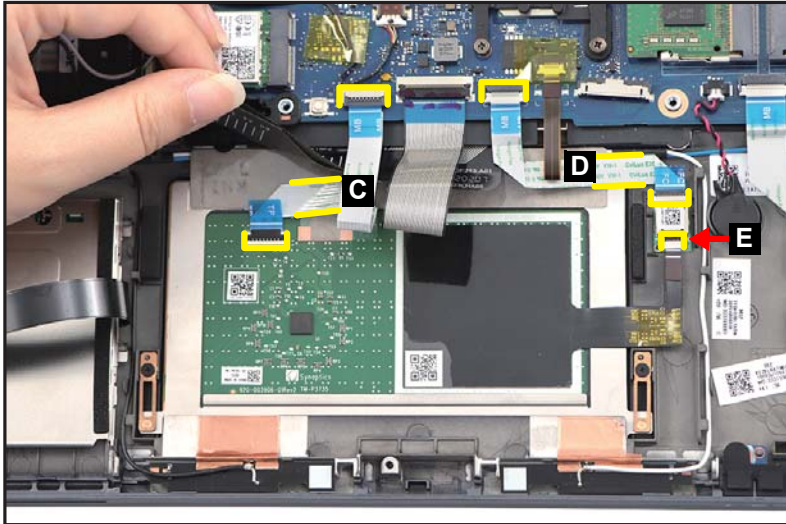

Figure 1-35. Touchpad Module Removal
3. Disconnect the touchpad FFC (C) from the touchpad module and mainboard connectors. Then carefully lift the portion of FFC (highlighted by the yellow lines) to detach it from the adhesive tape underneath as shown in Figure 1-35. Remove the touchpad FFC.
4. Disconnect the NFC FFC (D) from the NFC module and mainboard connectors. Then carefully lift the portion of FFC (highlighted by the yellow lines) to detach it from the adhesive tape underneath as shown in Figure 1-35. Remove the NFC FFC.
5. Disconnect the NFC antenna cable from the NFC module connector (E) (Figure 1-35).